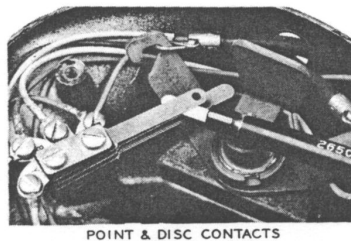

FIG. 5A — POINT AND DISC CONTACTS CLEANING
- 3.10** To clean contacts, burnish with the 265C tool having a clean blade (see Figs. 5A and 5B).